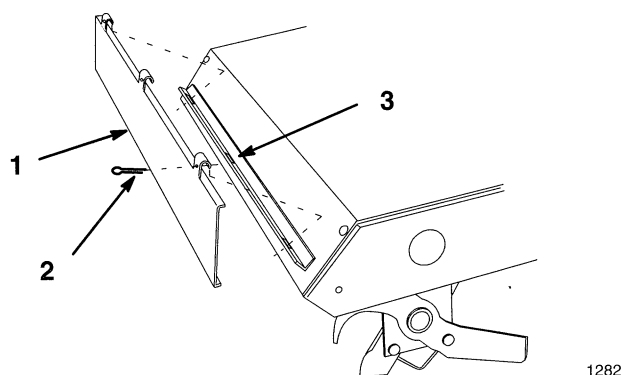

Figure 2
4. Rotate tiller down and hook rear shield into slots at rear of tine shield. Secure with cotter pins (Fig. 2).